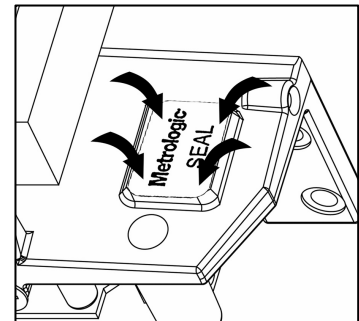

Figure 57.
3. With very light pressure, push down on the adhesive calibration security seal label to ensure a firm adhesion is created (see *Figure 57*).